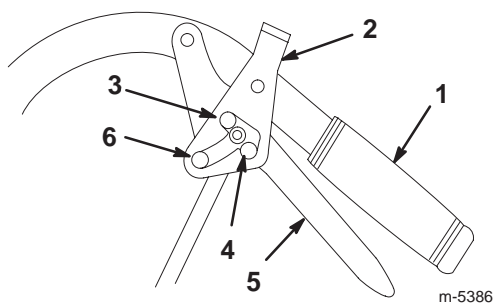

Figure 15
1. Squeeze the drive levers back (Fig. 15).
2. Place your thumbs on the upper part of the locks and move them forward in into the **Park** position (Fig. 15).
2. Place your thumbs on the upper part of the locks and move them rearward until they are in the **Drive** position (Fig. 15).
2. Place your thumbs on the upper part of the locks and move them rearward into the **Neutral Lock** position (Fig. 15).
2. Place your thumbs on the upper part of the locks and move them forward until they are in the **Drive** position (Fig. 15).